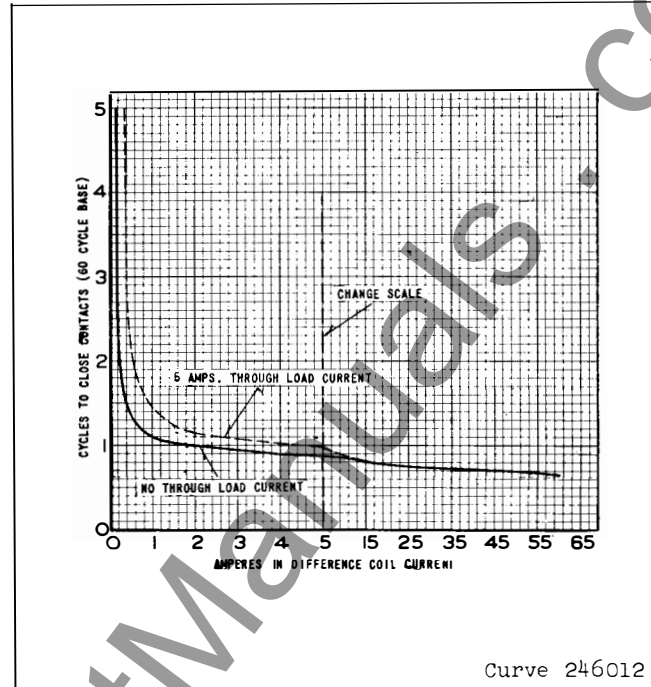

Fig. 4. Typical Time - Current Curve for the Differential Unit.
* The time curve of the relay is shown in figure 4.